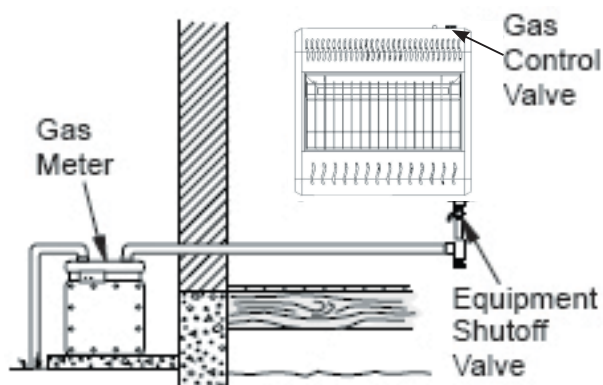
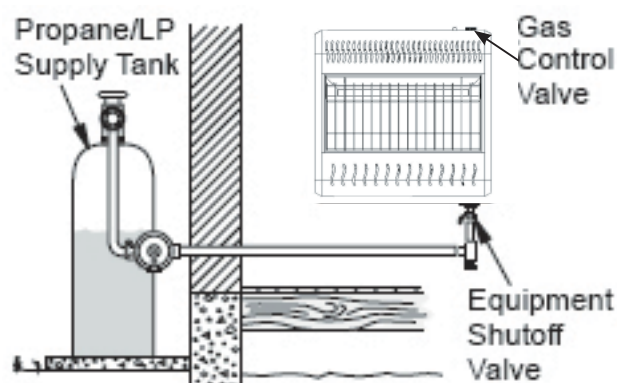

Figure 16 - Checking Gas Joints for Natural Gas
Figure 17 - Checking Gas Joints for Propane/LP Gas
3. Check all joints from gas meter for natural gas (see Figure 16, page 14) or propane/LP supply tank for propane/LP gas, to equipment shutoff valve (see Figure 17, page 14). Apply a noncorrosive leak detection fluid to all joints. Bubbles forming show a leak.
4. Check all joints from equipment shutoff valve to thermostat gas valve (see Figure 16 or 17). Apply a noncorrosive leak detection fluid to all joints. Bubbles forming show a leak.